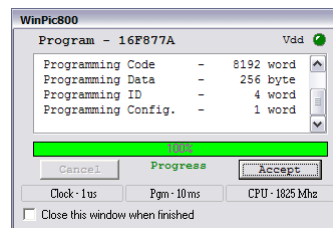

Figure 15: Programming is done succesfully!
11. If you get the message shown in Figure 15 without taking any error message, then the microcontroller is programmed.